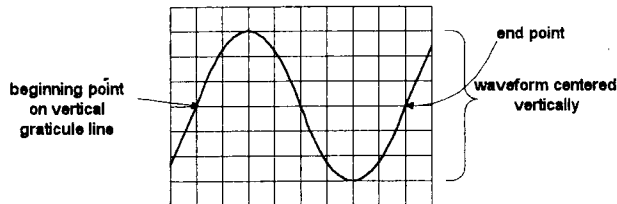

Fig. 8. Sine wave period measurement
4. If accurate waveform frequency or period measurement is to be made, center the waveform vertically. The complete period must be measured from one point on the beginning of the waveform to the same point beginning the next waveform. (see Fig. 8)
For example if the TIME/DIV setting for Fig. 8 is 0.1ms/div then the period is 8 div/cycle times 0.1ms/div = 0.8 ms/cycle. The frequency is then